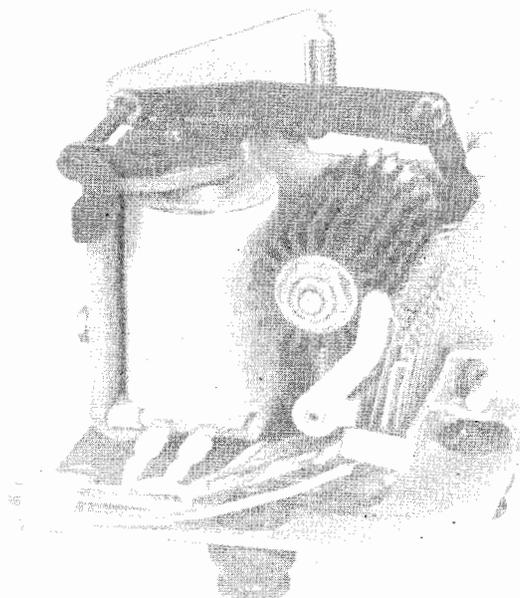

Figure 1 - 37 Answer-Back Unit
1.01 This section provides the mechanical requirements and adjustments for the late design Model 37 answer-back unit (Figure 1), which are required for field maintenance. The drum feed mechanism on the late design unit is located at the end of the code drum. The drum feed mechanism on the early design answer-back unit is located in the middle of the code drum.